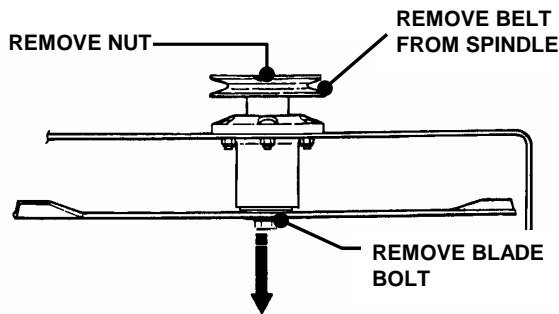

FIGURE 4.16
1. Remove belt. Loosen blade nut and remove. Allow blade bolt, washer, blade and four spacers to drop down out of the spindle housing. See Figure 4.16.